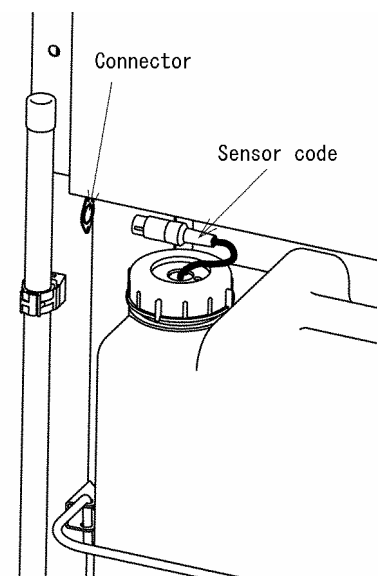

Fig.2-2
2. Be sure to disconnect the wasted oil upper limit sensor cord from the connector. (See Fig. 2-2.)